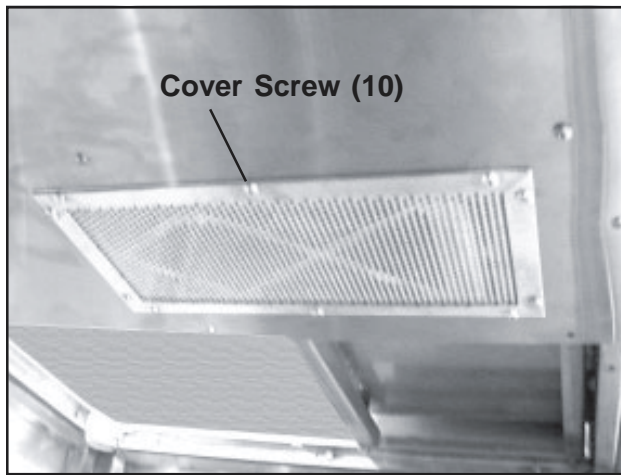

Figure 51. Typical Filter Cover (exhaust shown)
3. With a Phillips screwdriver, remove the ten screws on the perforated cover over the pre-filter (Figure 51), and remove the cover.
7. With ten screws removed above, fasten the cover (Figure 51) over the pre-filter.